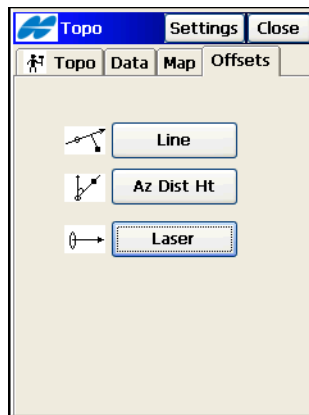

Figure 8-19. Topo – Offsets
6. If the location of the point to be observed is unreachable, set offset parameters using a simple offset or offsets from a line. Tap the *Offsets* tab (Figure 8-19).